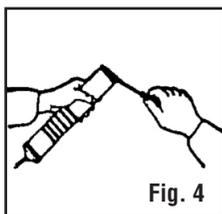
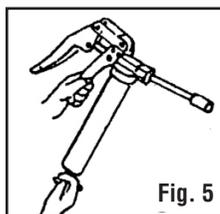

Fig. 4
Fig. 5
3. Insert the open end of the cartridge into the container tube and push it all the way in. Remove the seal or pull the tab end from the cartridge. (fig. 4 and fig.5)